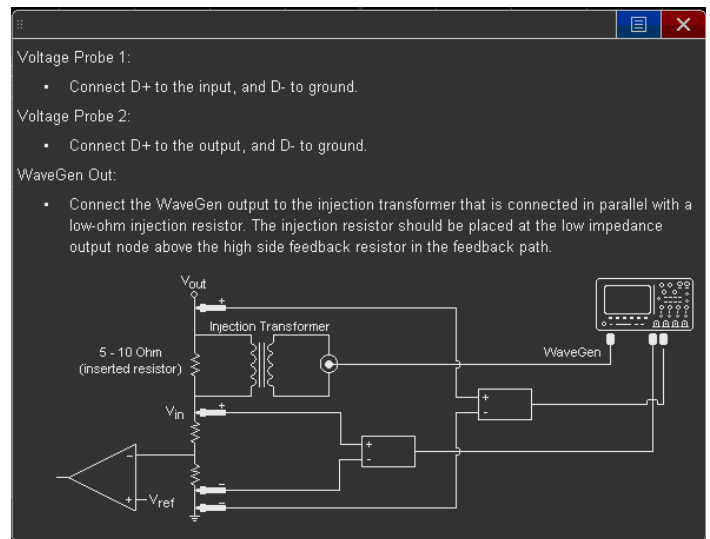

Figure 38. Connections diagram for a Control Loop Response measurement.
4. To view the connections diagram shown in Figure 38, touch the blue "?" symbol; then make the following connections: